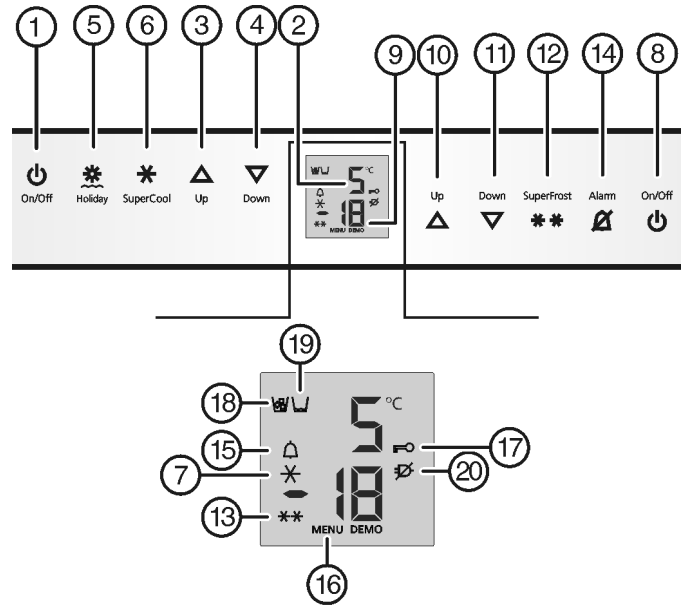

Fig. 2
- ▶ Press On/Off button, freezer compartment *Fig. 2 (8)*.
- ▶ Press On/Off button, refrigerator compartment *Fig. 2 (1)*.
- ▶ To activate the setting mode: press SuperFrost button *Fig. 2 (12)* for about 5 s.
- ▷ The menu symbol *Fig. 2 (16)* shines.
- ▶ Briefly press the SuperFrost button *Fig. 2 (12)* to confirm.
- ▶ To activate the child lock, briefly press the SuperFrost button *Fig. 2 (12)*.
- ▷ The child lock symbol *Fig. 2 (17)* shines. **c** flashes in the display.
- ▶ to deactivate the child lock, briefly press the SuperFrost button *Fig. 2 (12)*.
- ▷ The child lock symbol *Fig. 2 (17)* goes out. **c** flashes in the display.
- ▶ To deactivate the set-up mode: press On/Off button, freezer compartment *Fig. 2 (8)*.
- ▶ Press alarm button *Fig. 2 (14)*.
The temperature display and the alarm symbol *Fig. 2 (15)* flash at the same time.
The audible alarm is automatically silenced, the alarm symbol *Fig. 2 (15)* goes out and the temperature display stops flashing when the temperature is sufficiently cold again.